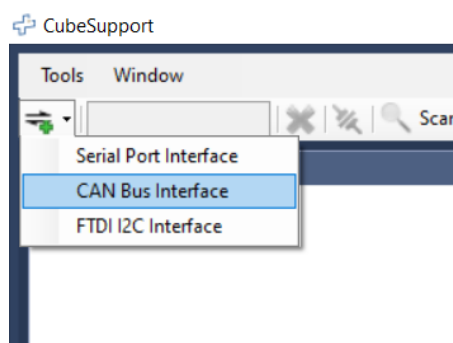
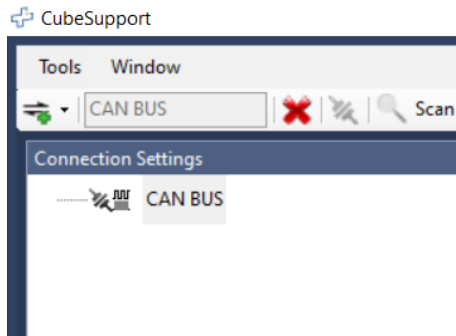

Figure 27: Connection dropdown
Figure 28: CAN interface selected
- 4) Click on the dropdown arrow next to the  icon (top left) in the CubeSupport application and select PCAN Interface, as shown in Figure 27 and Figure 28. (There should be no need to change the default connection settings shown in Figure 29).